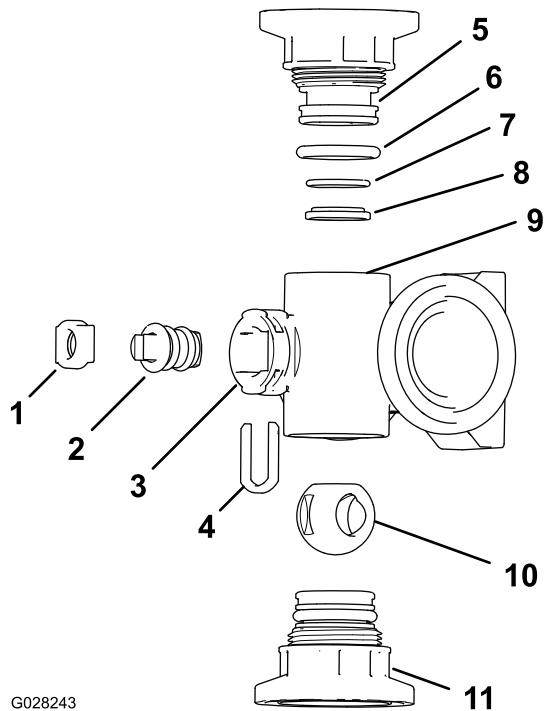
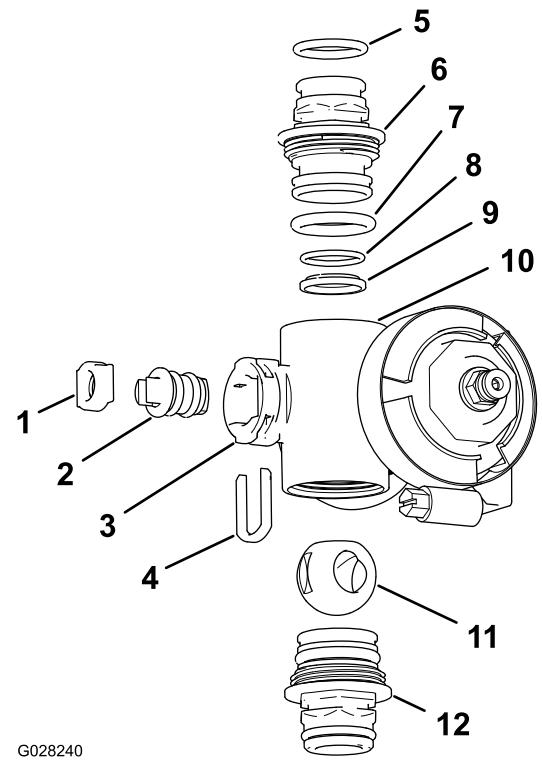

Figure 123
Figure 124
2. Remove the 2 end-cap-fitting assemblies from each end of the manifold body (Figure 123 and Figure 124).
4. Remove the stem retainer from the slots in the stem port in the manifold (Figure 123 and Figure 124).
5. Remove the stem retainer and valve stem seat from the manifold (Figure 123 and Figure 124).
6. Reach into the manifold body and remove the valve-stem assembly (Figure 123 and Figure 124).
1. Check the condition of the outlet fitting O-rings (section valve manifold only), end cap O-rings, back seating O-rings, and ball seat for damage or wear (Figure 123 and Figure 124).
2. Apply silicone grease to the valve stem and insert it into the valve stem seat (Figure 123 and Figure 124).
3. Install the valve stem and seat into the manifold and secure the stem and seat with the stem retainer (Figure 123 and Figure 124).
4. Ensure that the back seating O-ring and the ball seat are aligned and seated into the end-cap fitting (Figure 123 and Figure 124).
5. Install the end-cap fitting assembly onto the manifold body until the flange of the end-cap fitting touches the manifold body (Figure 123 and Figure 124), then turn the end-cap fitting an additional 1/8 to 1/4 turn.